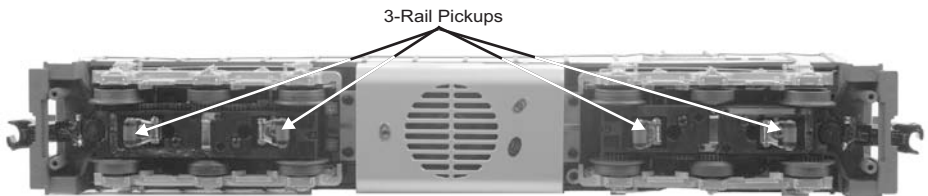

Figure 5: 2-Rail/ 3-Rail Operation
1. Remove the center rail pickup roller assemblies as seen in figure 5 (below).